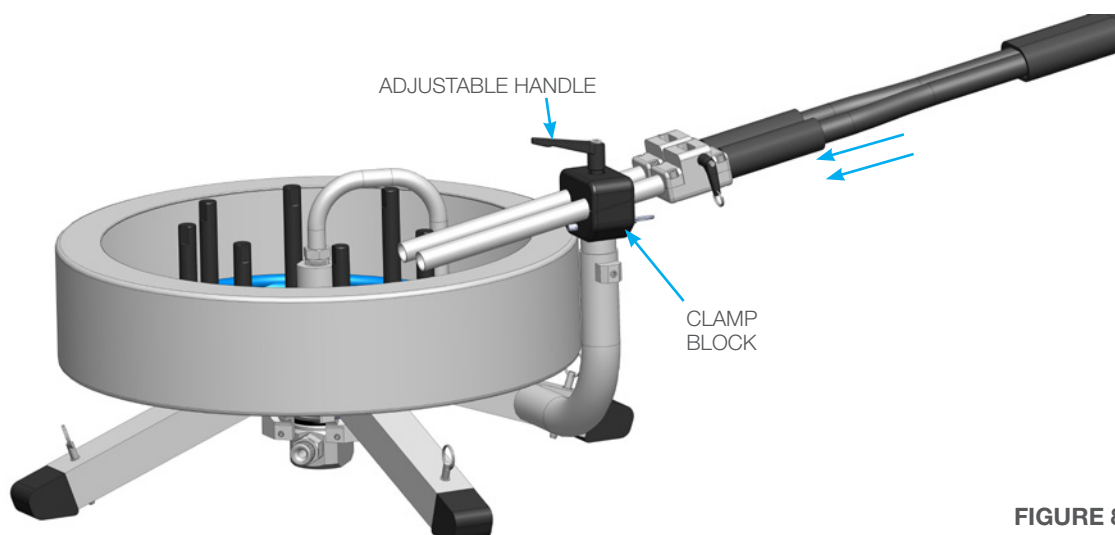

FIGURE 8
2. Loosen the Adjustable Handle on the Clamp Block and insert the Guide Tubes. Hand tighten the Adjustable Handle (**Figure 8**).